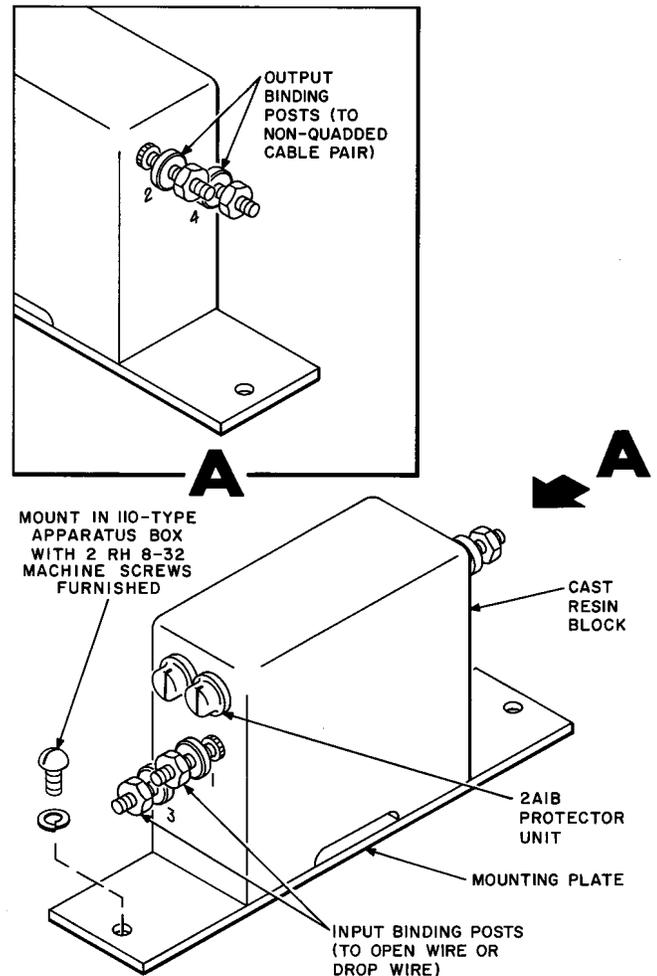

Fig. 1—1530A Inductor (Single Pair Type)
2.01 This inductor is a single-pair type consisting of a two-winding retardation coil, two 2A1B Protector Units, with input and output binding posts all assembled in a cast resin block. The 1530A Inductor is designed primarily for use on a nonquadded cable pair. The base of the block is equipped with a mounting plate which is used for mounting the inductor in a 110-type apparatus box. (Fig. 1 and 2)